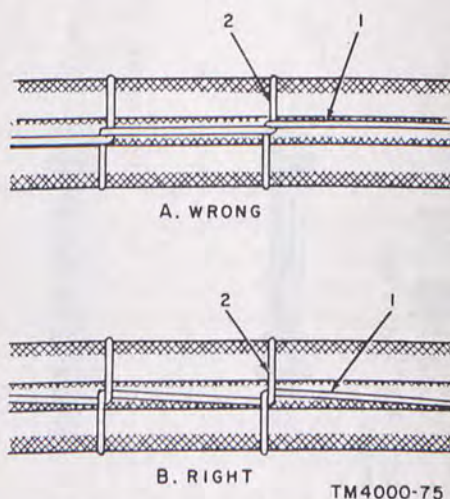

Figure 87. How to lace a cable.
c. The right way to lace a cable is to make outside loops, which have a tendency to retain their tension, and hold the cable together, in the event of a break anywhere in the cord. This point is illustrated in figure 87, where an inside loop is shown in A and an outside loop in B. If the cord in A should break at point 1, the loop 2 would loosen and the entire lacing would come apart. But if the cord in B should break at point 1, the loop 2 would probably not loosen.